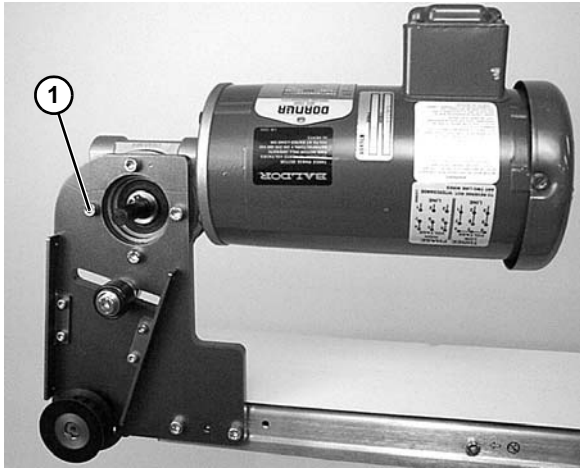

Figure 26
4. Remove four (4) gear reducer mounting screws (**Figure 26, item 1**). Remove gearmotor.
10. Install gearmotor to mounting bracket and tighten screws (Figure 26, item 1) to 103 in-lb (12 Nm).